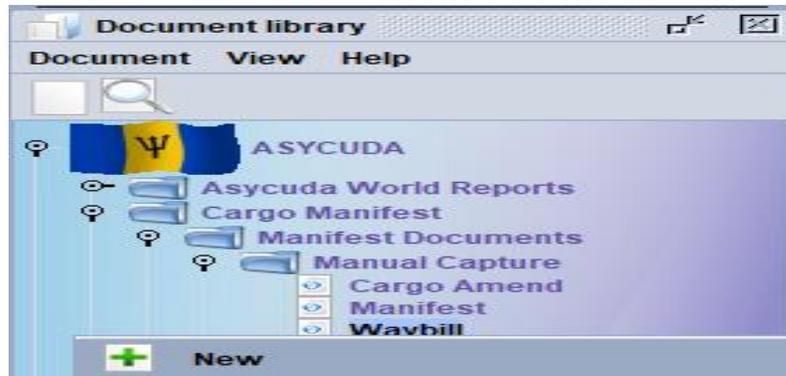

Figure 17 Access to add a New Waybill
- Select a new waybill using the “Document library” path as shown in Figure 17.